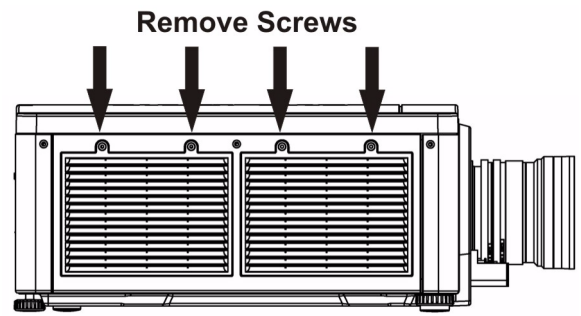

FIGURE 5-1 REPLACE FILTER
1. Unscrew the 2 captive screws at the top of each filter door (Figure 5-1). Allow the door to rest down and away from the projector.
1. Unscrew the 2 captive screws at the top of each filter door (Figure 5-1). Allow the door to rest down, away from the projector.